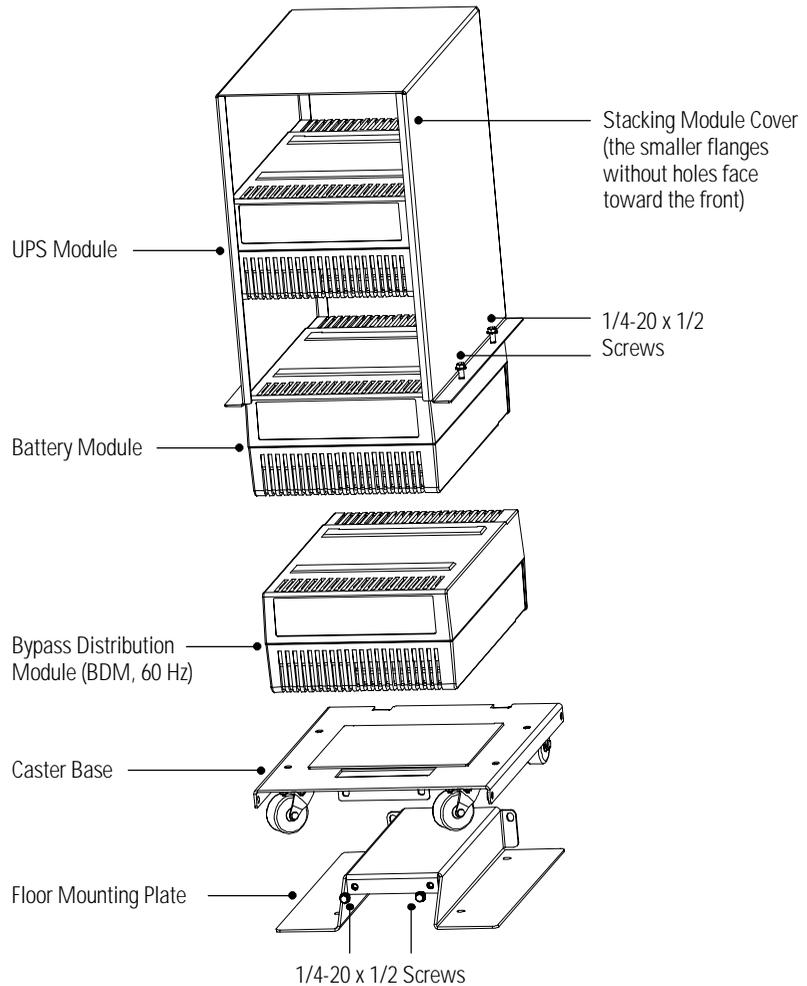
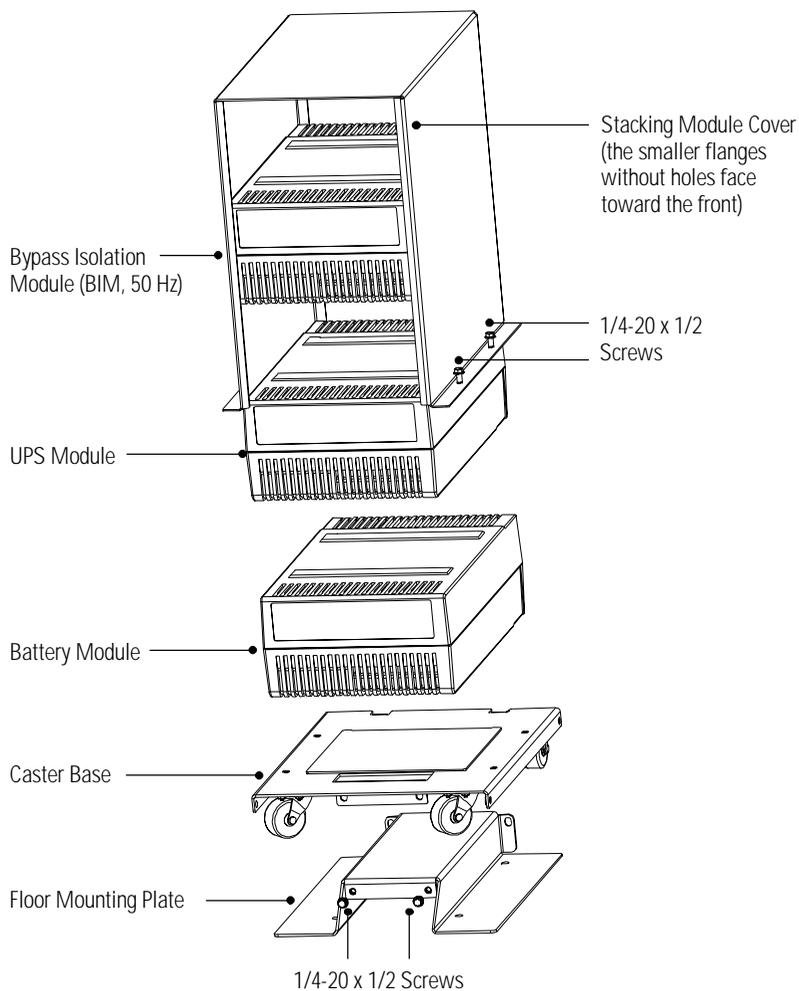

Figure 3. UPS with Distribution Module Setup
Figure 4. UPS with Isolation Module Setup
Do not place more than three battery modules in one stack. The modules must be stacked in the correct order (Figure 3 shows the Distribution Module and Figure 4 shows the Isolation Module).
B Secure the caster base to the mounting plate using four of the 1/4-20 x 1/2 screws provided. See Figure 3 or Figure 4 for part locations.
3. Stack the modules onto the caster base according to the stacking order shown in Figure 3 or Figure 4.